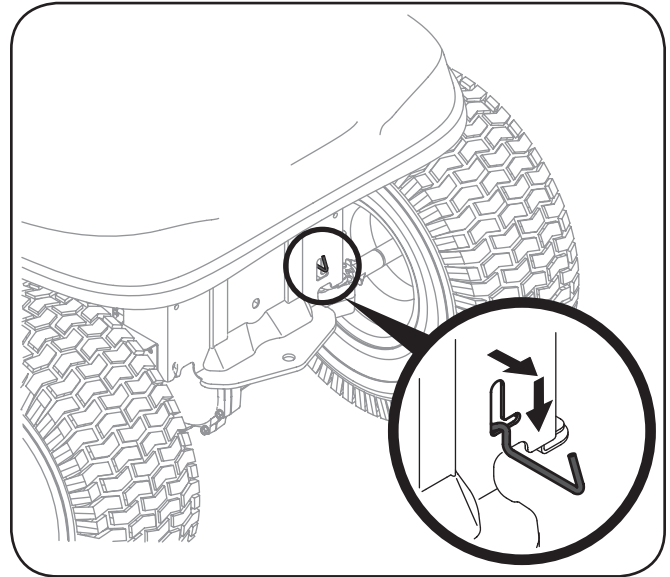

Figure 5-3
1. Locate the hydrostatic bypass rod in the rear of the tractor. See Figure 5-3.